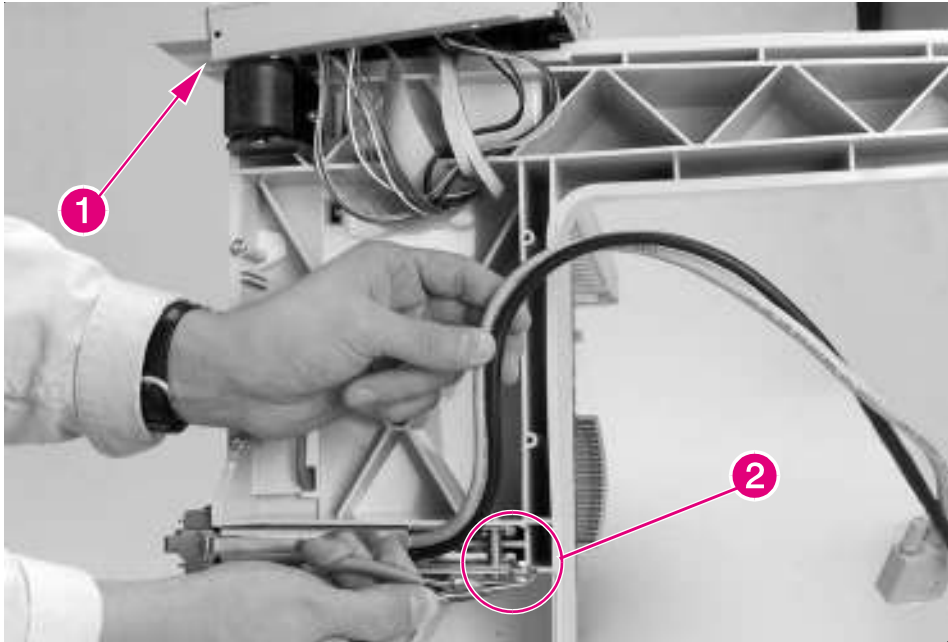

Figure 6-179 8-bin Mailbox Attachment Assembly
- 3 Set the Controller PCA on top of the 8-bin Mailbox unit (Figure 6-179, callout 1).